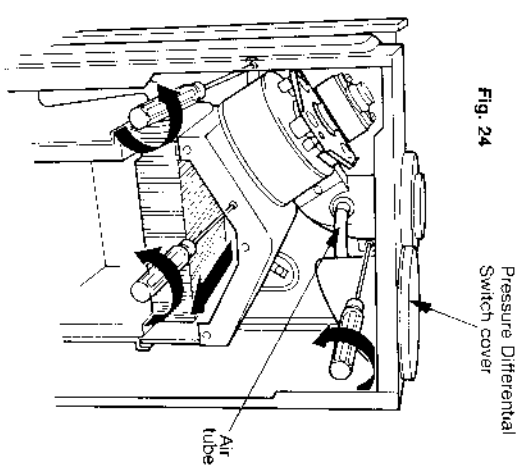

Fig. 24
- 8.9.4 Unscrew maintenance clip securing screws and remove clip (fig 24)
- 8.9.6 Remove 3 flue hood retaining screws (fig 24)
Refer to fig 24
- 8.10.3 Remove 3 screws holding pressure differential switch cover (fig 24) and remove cover.